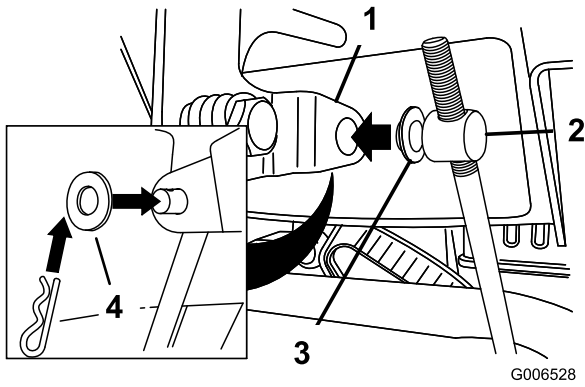

Figure 12
3. Remove the hairpin cotter and the outer washer from the trunnion on the upper end of the speed control rod (Figure 12).
Note: To make installation easier, leave the flat washer on the trunnion (Figure 12).
6. Lift up on the speed control rod and insert the trunnion into the hole in the speed selector lever (Figure 12).
- B. Disconnect the trunnion from the speed selector lever (Figure 12).
- C. Turn the trunnion upward (counterclockwise) on the speed control rod (Figure 12).
- D. Connect the trunnion to the speed selector lever (Figure 12).